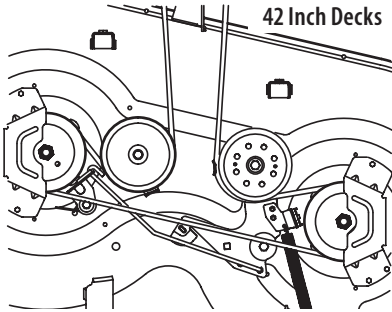
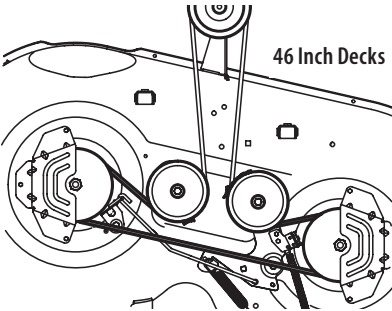
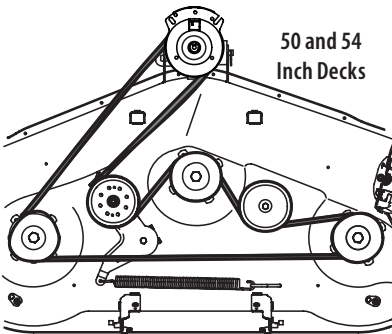

Fig. 56
Fig. 57
Fig. 58
4. Route the new belt as shown in the applicable figure below. See Fig. 56 (42 inch decks), Fig. 57 (46 inch decks) and Fig. 58 (50 and 54 inch decks).